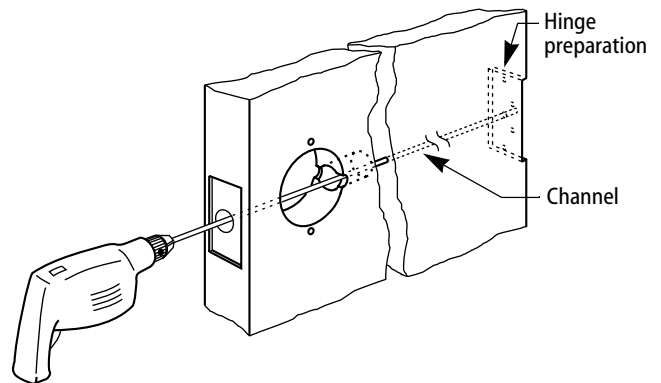
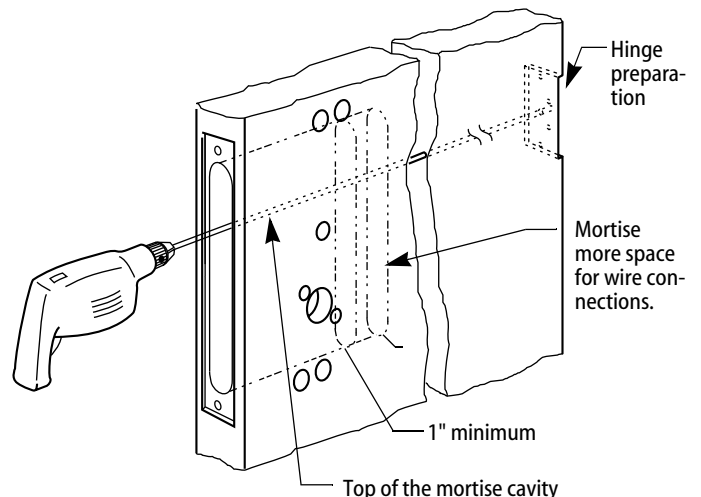

Figure 3—Drilling the channel into a 8K/9K door prep.
Figure 4—Drilling the channel into a 30H door prep.
- Using a three to four foot drill bit, drill a 3/8" diameter channel, through the edge of the door, to the center of the nearest hinge preparation. Drill from the cylindrical latch or the top of the mortise cavity as shown in Figure 3 and Figure 4.